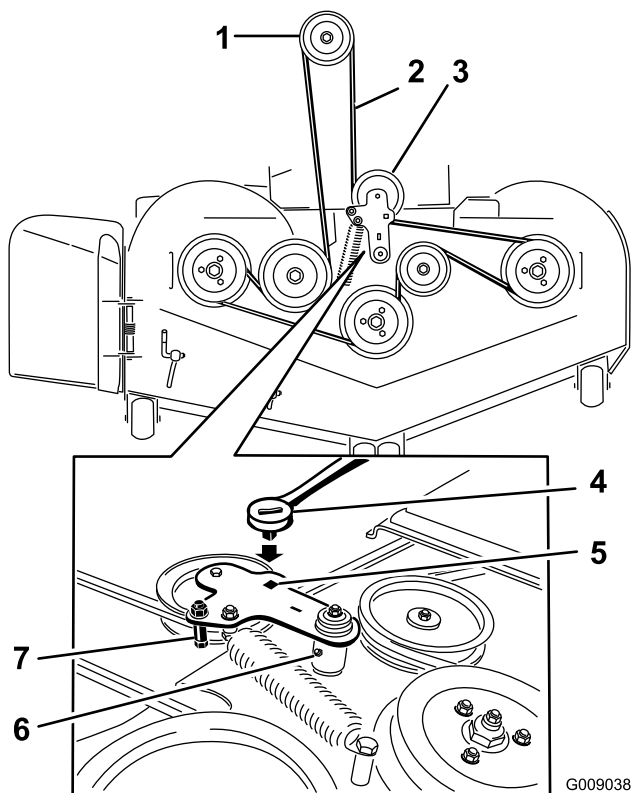

Figure 100
5. Lift up the floor pan and insert a ratchet into the square hole in the deck idler (Figure 100).
6. Rotate the deck idler clockwise and remove the mower belt (Figure 100).